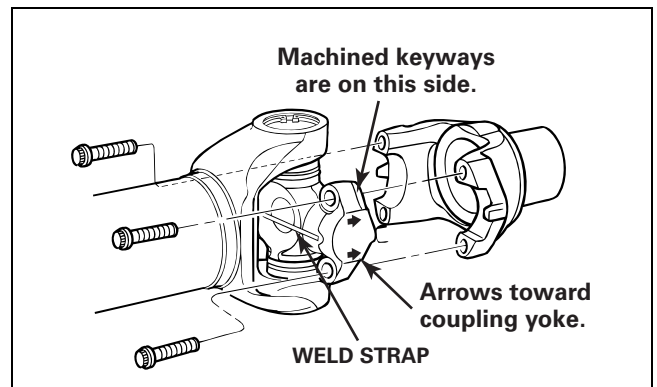

Figure 4.40
1. Before you install the capscrews, check that the universal joint is fully seated in the end yoke. The arrows on the wing bushing should point toward the coupling yoke. Figure 4.40.